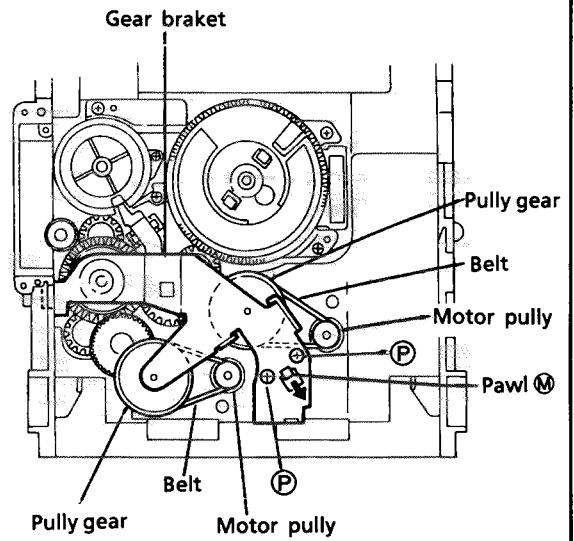

Fig. 37
1. Remove 2 screws ② securing the gear bracket. (See Fig. 37.)
2. Press the pawl ④ securing the gear bracket to the arrow in the figure to remove the gear bracket. (See Fig. 37.)
4. Remove each belts from the both actuator motor pulleys and the pulley gears. (See Fig.37.)